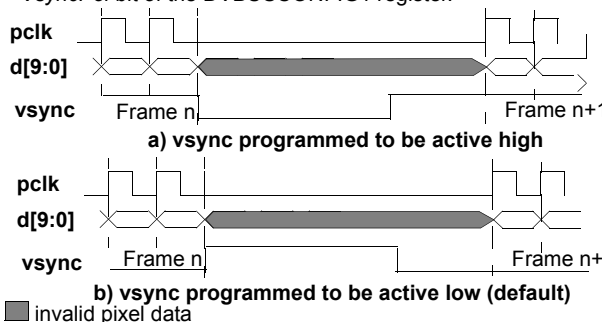

Figure 47. **vsync** in Pulse Mode
- **Pulse mode** should be used when the pixel clock, **pclk**, is programmed to operate in *data ready mode*. In pulse mode the **vsync** output pin will produce a pulse at the end of each frame. The width of the pulse will be a minimum of four **hclk** cycles and its polarity can be programmed as shown in Figure 47. The **vsync** level is always synchronized to the active edge of **pclk**. The **vsync** pin is put into pulse mode by setting the *VsyncMode* bit of the DVBUSCONFIG1 register to a logic 1. The active level of the **vsync** pulse is programmed using the *VsyncPol* bit of the DVBUSCONFIG1 register.